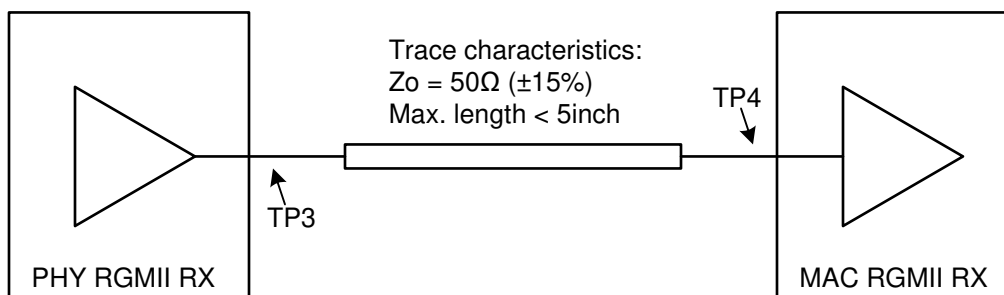

Figure 7-3. RGMII RX Requirements
- No damping resistors should be added at TP3/TP4, in Figure 7-3, as that will impact signal integrity of RX signals.
- Figure 7-3 shows a RGMII interface requirements for RX* signals. MAC RGMII driver output impedance should be 50Ohm+/-20%.
- Signal Integrity at TP3 and TP4, in Figure 7-3, should be verified with IBIS model simulation and ensured conformance to following requirements: